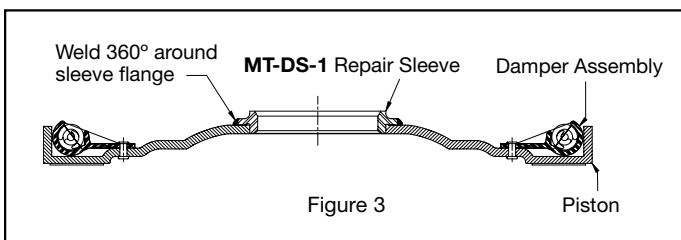

Figure 3
5. Place repair sleeve in the piston damper assembly, making sure the flange is pressed firmly against the machined surface (Figure 3).
6. Weld 360° around the flange O.D. A GTAW (TIG) weld is preferred to ensure a strong, flat and leak proof weld (see Figure 3).